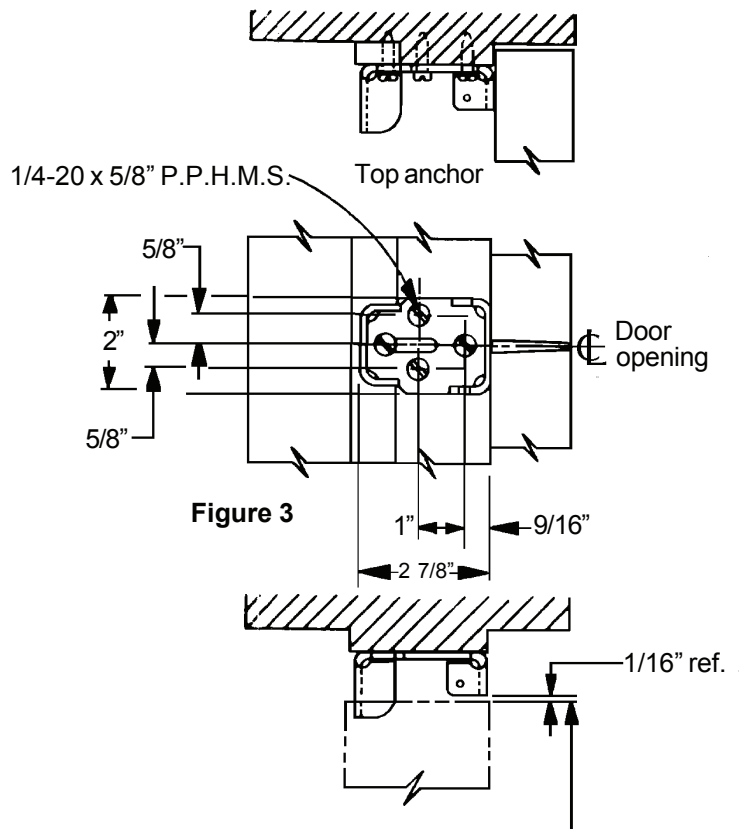
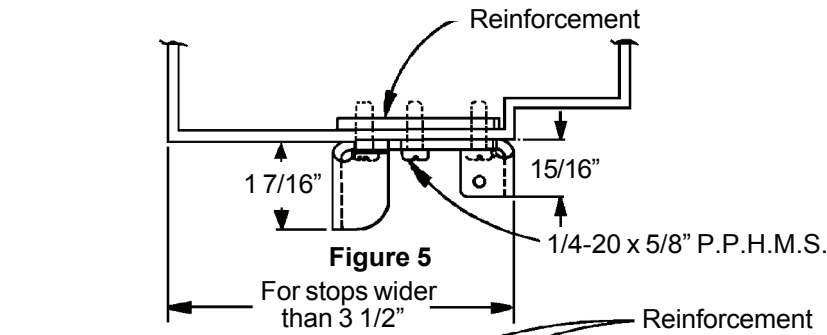

Figure 3
Figure 5
- 2 Line up top mullion fitting with center of door opening and flush with closed doors as shown in Figure 3 and install. See Figures 5, 6, and 7 (reverse side) for optional frame conditions.